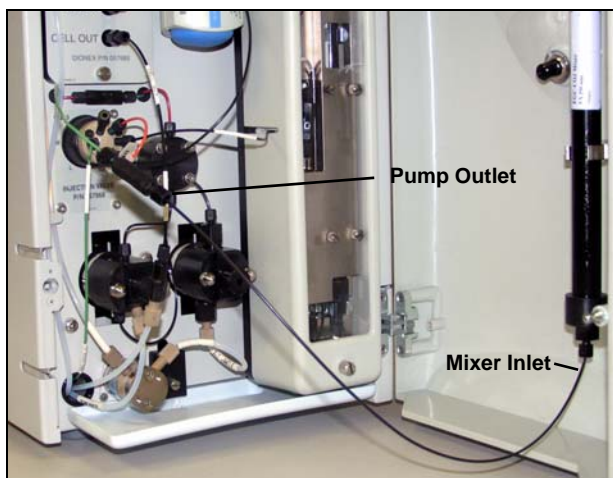

Figure 77. Pump Outlet Connected to Mixer Inlet for Mixer Hydration
3. Connect the pump outlet to the mixer inlet (see Figure 77).